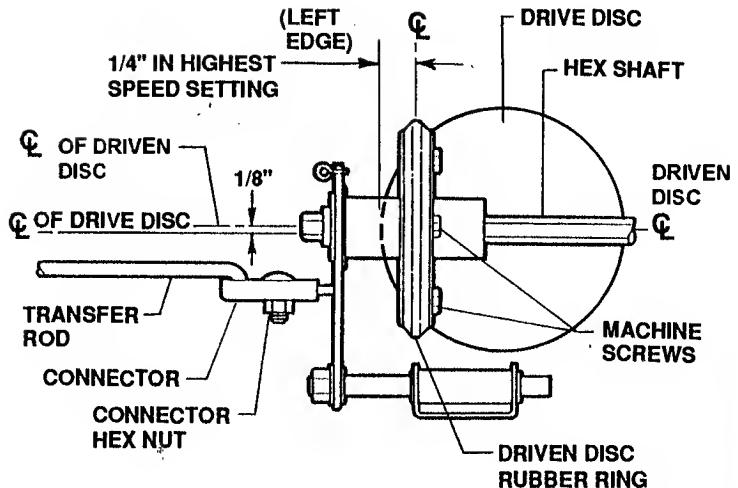

FIGURE 3.13
- (b) Check the dimension from the centerline of the driven disc's rubber ring to the *left* edge of the drive disc. This dimension should be $1/4"$ in the highest speed setting. See Figure 3.13.
(f) To test the tracking adjustment, disconnect the transfer rod (Figures 3.13 & 3.14) and start the engine. If the rubber ring tracks in place approximately halfway between the center and left edge of the drive disc, the adjustment is correct.